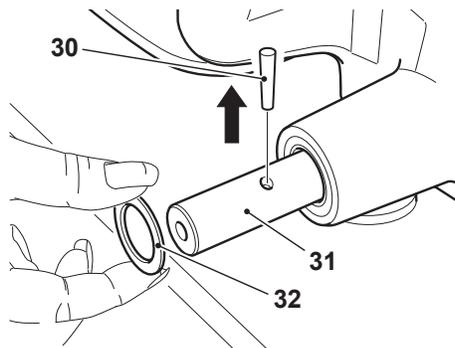

Figure 9-2
2. Remove the taper pin (30) from the flywheel shaft (31) (Figure 9-2).
3. Use a hammer to tap the taper pin (30) out of flywheel shaft (31).
4. Install the shim (32) on the flywheel shaft (31).